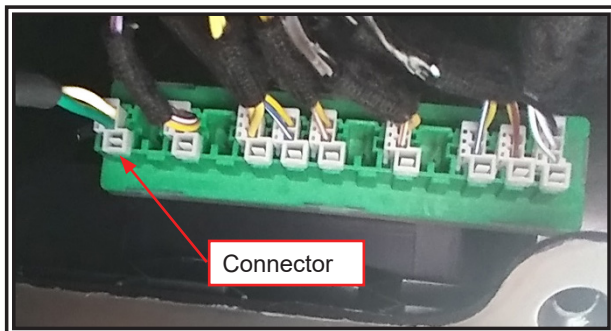

Figure 6
Step 2. Locate the OEM CAN-C port shown in FIGURE 6. This will be located behind the dash, below the glove box, facing the floorboard, on the passenger side.
Step 3. Connect the 2-pin connector from the OBDII Harness to the CAN-C port, as seen in FIGURE 6.